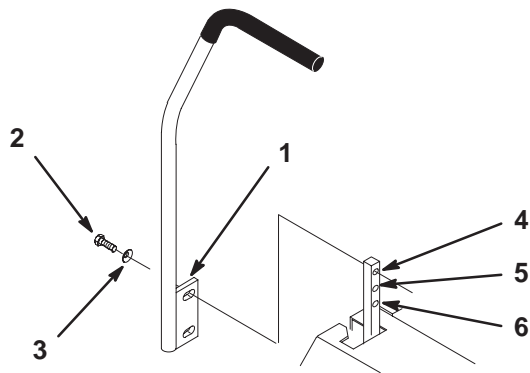

Figure 4
- Remove the 4 bolts (3/8 x 1 inch) and 4 spring washers (3/8 inch) which attach the motion control levers to the control arm shafts for shipping (Fig. 4).
- Place the levers (with the mounting plate toward the rear) on the outside of the control arm shaft and secure with 4 bolts (3/8 x 1 inch) and 4 spring washers (3/8 in.) (Fig. 4).
- Align the front/rear position of the levers, with each other, in the neutral position. Loosen hardware and adjustment by sliding/tilting the lever(s) forward or backward until properly aligned (Fig. 4).